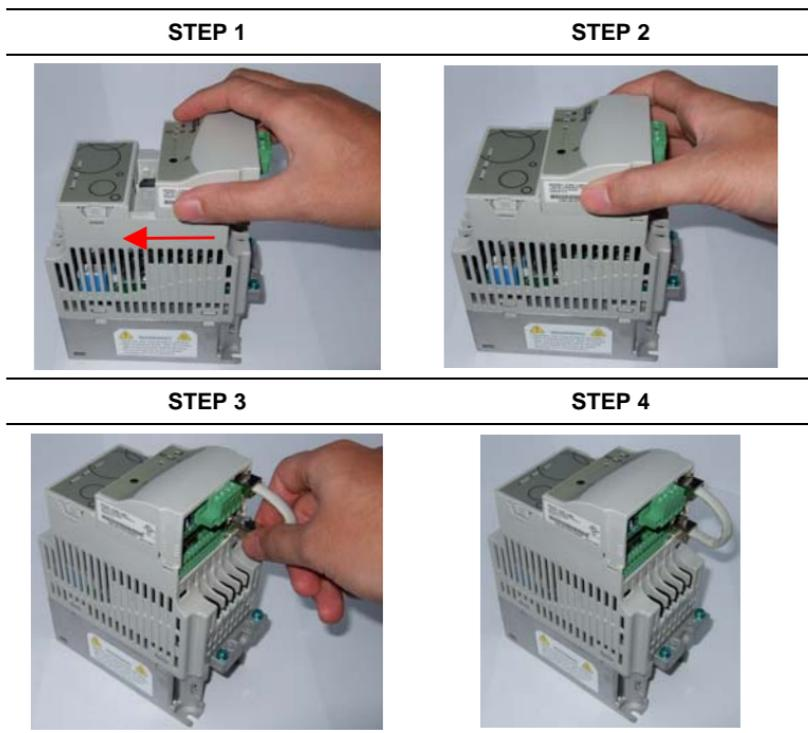

Figure 2-1
1. Please refer to Figure 2-1 to mount CME-LW01 on the AC Motor Drive.